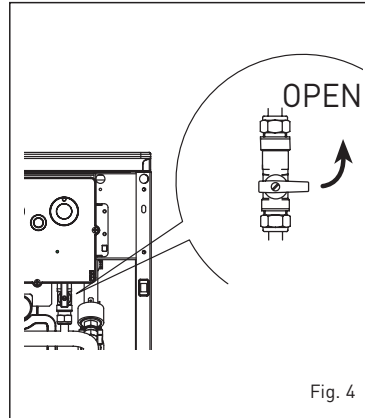

Fig. 4
2.2.1 System filling (fig. 4)
Upon completing the filling, put the screw back to its original position. At the end of the operation make sure that the tap is closed (fig. 4).